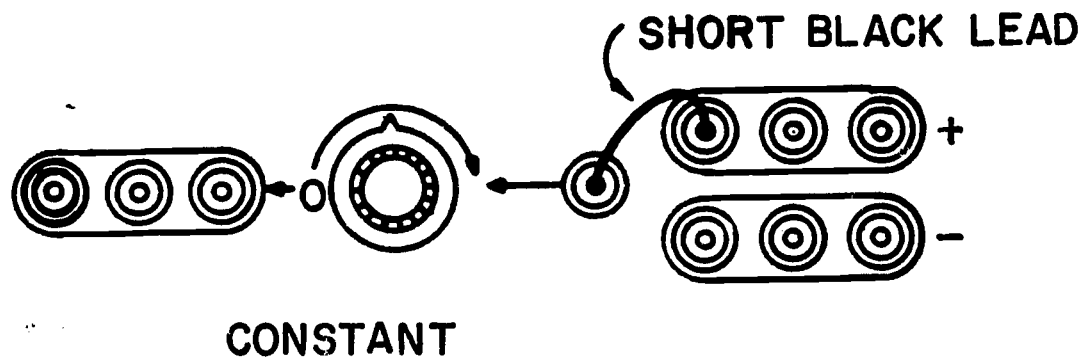

Fig. 2 Connection for positive signal
- (10) Take one of the short black leads which come with the Analog and connect it as shown in Fig. 2. [The short black, blue and yellow wires are used to transfer signals between terminals on the Analog. We call these patch leads.]